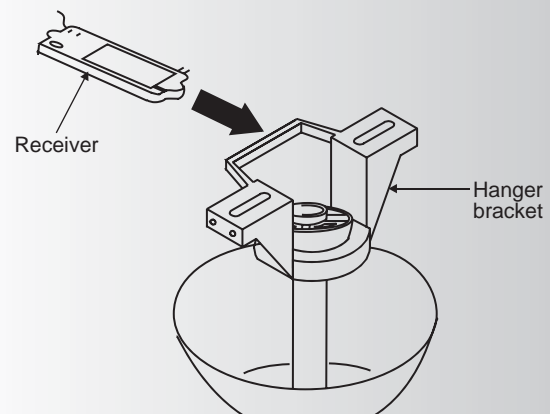
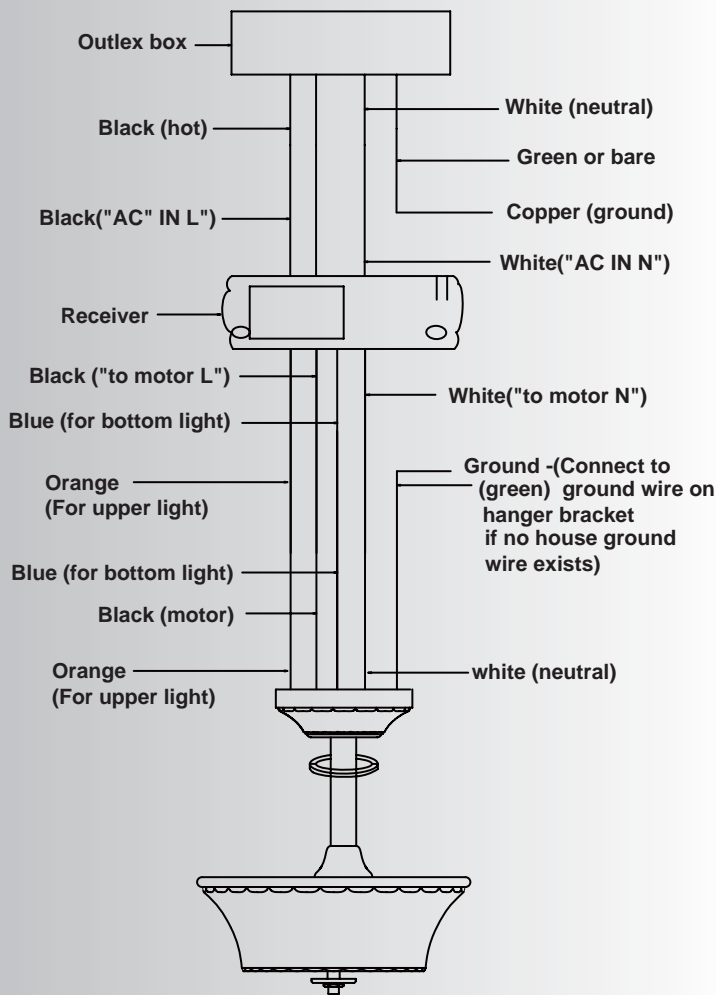

Fig. 14
Fig. 15
Step 1. Insert the receiver into the mounting bracket, and keep flat in opposition of ceiling. (Fig. 14)
Step 2. (Fig. 14) Motor to Receiver Electrical Connections: Connect the black wire from the fan to black wire marked "TO MOTOR L" from the receiver. Connect the white wire from the fan to the white wire marked "TO MOTOR N" from the receiver. Connect the blue wire from the fan to the blue wire marked "For Bottom Light" from the receiver. Connect the orange wire from the fan to the orange wire marked "For Upper Light" from the receiver. Secure all the wire connections with the plastic wire nuts provided. (Fig. 15 on next page)
Electrical Connections: Connect the black (hot) wire from the ceiling to the black wire marked "AC in L" from the receiver. Connect the white (neutral) wire from the ceiling to the white wire marked "AC in N" from the Receiver. Secure the wire connections with the plastic wire nuts provided. (Fig. 15)
Step 4. If your outlet box has a ground wire (green or bare copper) connect it to the fan ground wires; otherwise connect the hanging bracket ground wire to the mounting bracket. Secure the wire connection with a plastic nut provided. After connecting the wires, spread them apart so that the green and white wires are on one side of the outlet box and black and blue wires are on the other side. Carefully tuck the wire connections up into the outlet box. (Fig. 15)